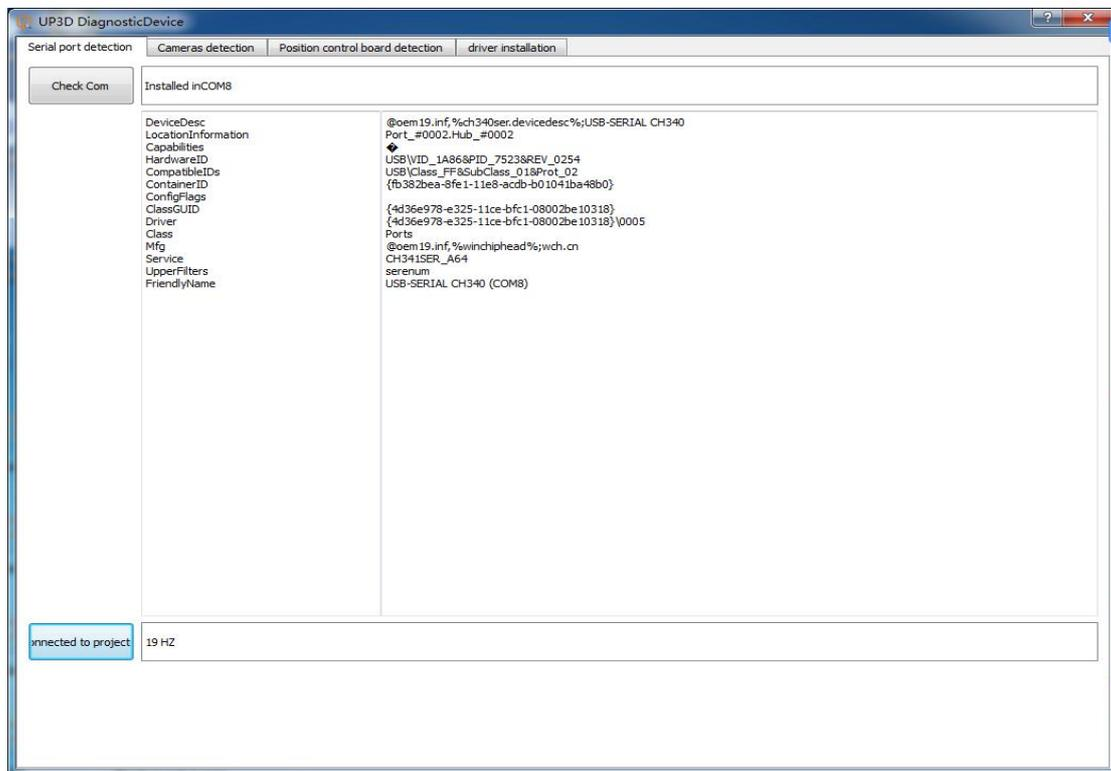

Figure 1-5
- ✓ Manual detection: expert detection mode, check the status and parameters of all components drivers and connection ( figure 1-5 ) .